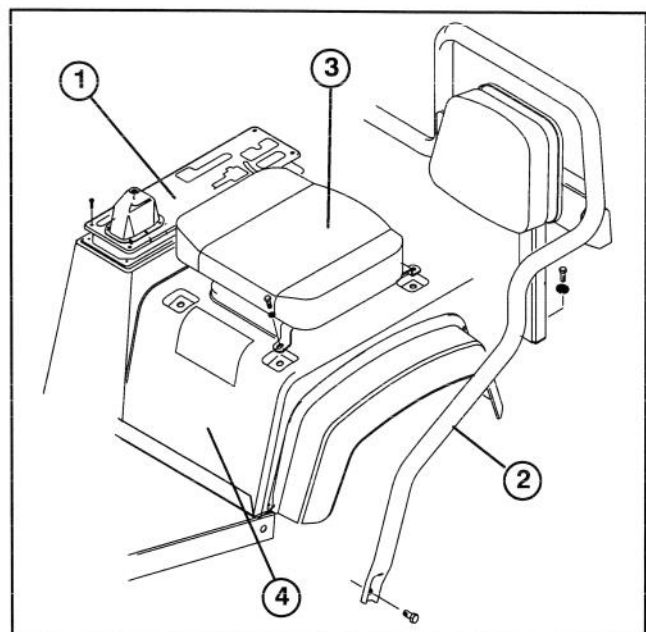

Figure 1
3. Remove (6) screws securing outside edge of center console cover plate to frame and remove cover plate (Fig. 1).
4. Loosen (2) capscrews and locknuts securing front legs of seat frame to sides of vehicle floor (Fig. 1).
5. Remove (2) capscrews and lockwashers securing seat frame brackets to vehicle frame (Fig. 1). Pivot seat frame forward.
7. Remove (4) capscrews and lockwashers securing each set of seat brackets to vehicle frame and remove seat assemblies (Fig. 1). Lift off skirt and fender assembly.